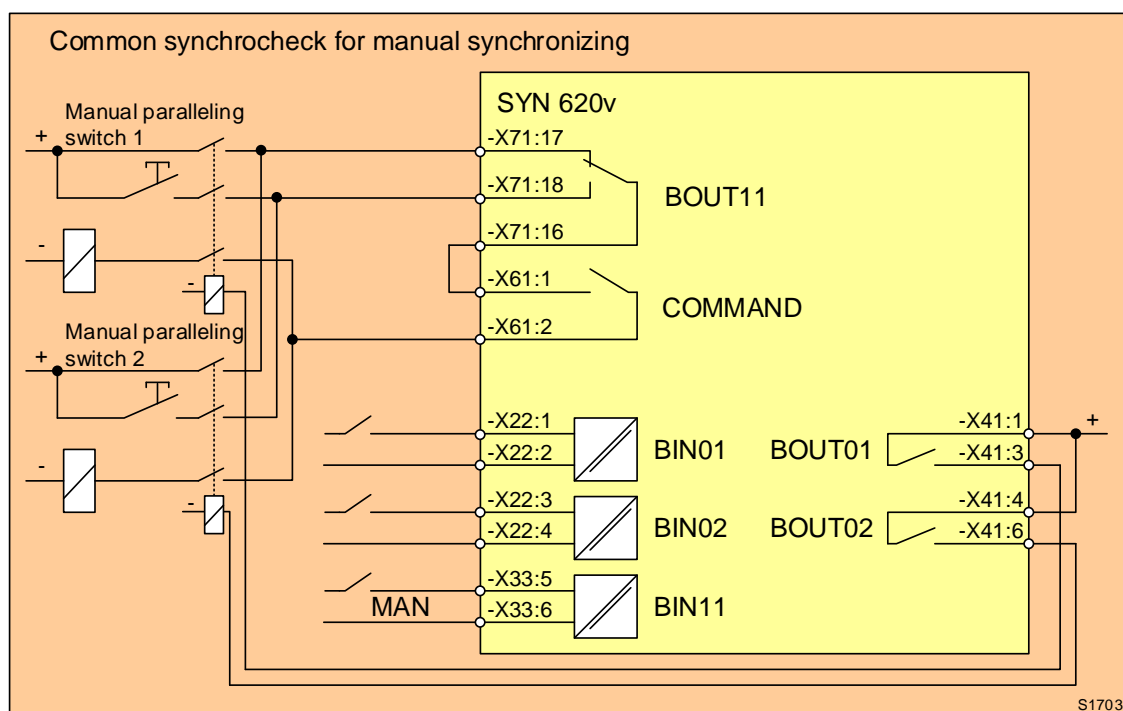

Figure 6-2 Multiple paralleling points and manual synchronizing
- BOUT11: connects the manual paralleling switch in MAN operating mode in series with the paralleling release contact (see *Figure 6-2*)
- BOUT11: switches the manual paralleling switch in MAN operating mode in series with the paralleling release contact (see Figure 6-2)